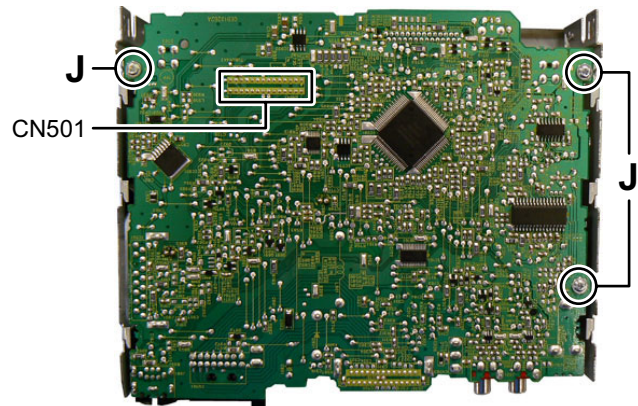

Fig.5
- (3) Remove the three screws **J** attaching the Main board. (See Fig.5)
- (4) Disconnect the board to board connector **CN501** connected to CD mechanism. (See Fig.5)